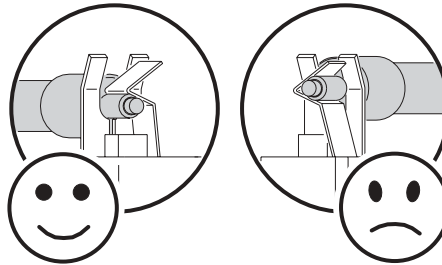

**Figure 4: Lamp terminals**
5. Make sure that the terminals on the lamp sit below the V-section in the lampholder clips and not in the V-section itself, as shown in Figure 4.